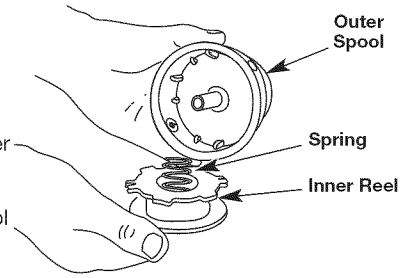

Fig. 14
2. Remove the inner reel from the outer spool (Fig. 14).
3. Remove spring from the inner reel (Fig. 14).
2. Remove the old inner reel from the outer spool (Fig. 14).
3. Remove the spring from the old inner reel (Fig. 14).